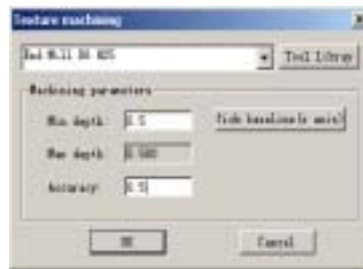

Fig. 3
2. Select the straight line, and then click **wave board -> texture** on the menu bar. A dialog is displayed. (Fig. 3)